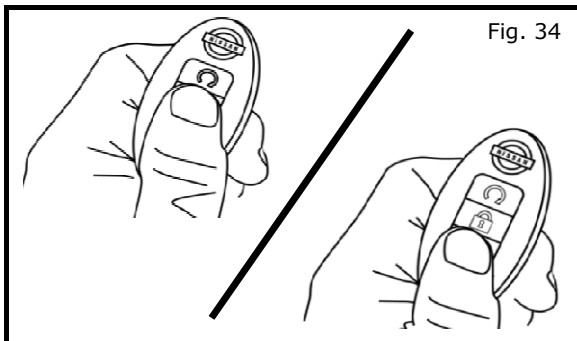

Fig. 34
- a) From inside vehicle press Lock on Fob 1 and Unlock on Fob 2 and confirm that vehicle responds accordingly as shown Fig. 34.
- b) From inside vehicle press Lock on Fob 2 and Unlock on Fob 1 and confirm that vehicle responds accordingly as shown Fig. 34.
- a) Insert keys into the new RES fobs as shown in Fig. 34.